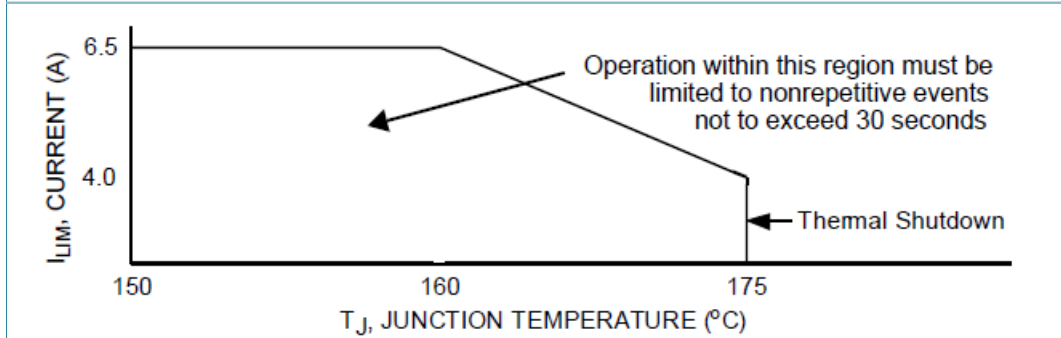
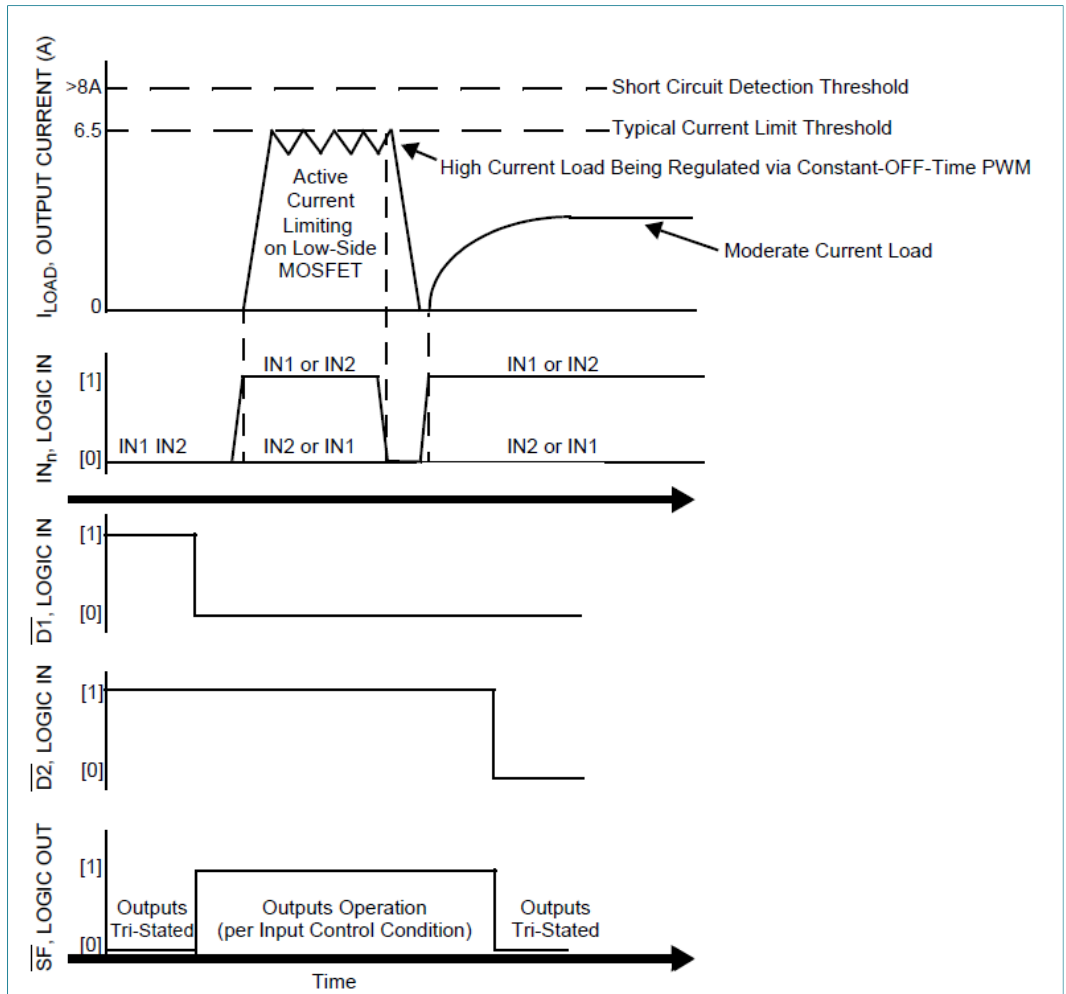
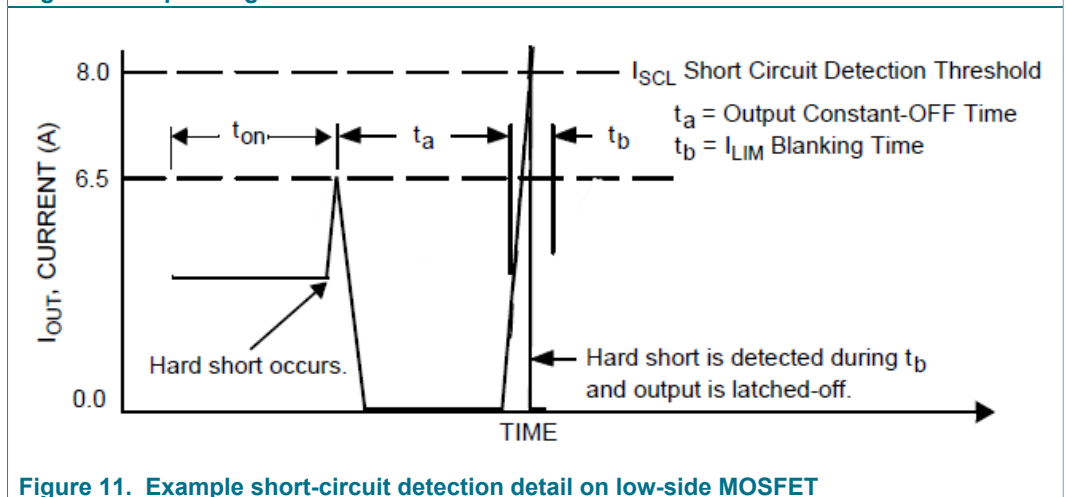

Figure 9. Active current limiting versus temperature (typical)
Figure 10. Operating states
Figure 11. Example short-circuit detection detail on low-side MOSFET
- [5] Load currents ramping up to the current regulation threshold become limited at the I_{LIM} value. The short-circuit current possess a di/dt that ramps up to the I_{SCH} or I_{SCL} threshold during the I_{LIM} blanking time, registering as a short-circuit event detection and causing the shutdown circuitry to force the output into an immediate 3-state latch OFF. See Figure 10 and Figure 11. Operation in current limit mode may cause junction temperatures to rise. Junction temperatures above ~160 °C causes the output current limit threshold to progressively foldback, or decrease with temperature, until ~175 °C is reached, after which the T_{LIM} thermal latch OFF occurs. Permissible operation within this foldback region is limited to nonrepetitive transient events of duration not to exceed 30 seconds. See Figure 9.
A disable timer (time t_b) used to detect currents that are higher than current limit is activated at each output activation to facilitate hard short detection (see Figure 11).
The maximum current flow under normal operating conditions is internally limited to I_{LIM} (5.2 A to 7.8 A). When the maximum current value is reached, the output stages are 3-stated for a fixed time (t_a) of 20 μ s typical. Depending on the time constant associated with the load characteristics, the current decreases during the 3-state duration until the next output ON cycle occurs (see Figure 11 and Figure 14).
The current limiting threshold value is dependent upon the device junction temperature. When $-40\text{ }^\circ\text{C} \leq T_J \leq 160\text{ }^\circ\text{C}$, I_{LIM} is between 5.2 A to 7.8 A. When T_J exceeds 160 °C, the I_{LIM} current decreases linearly down to 4.0 A typical at 175 °C. Above 175 °C the device overtemperature circuit detects T_{LIM} and overtemperature shutdown occurs (see Figure 9). This feature allows the device to remain operational for a longer time but at a regressing output performance level at junction temperatures above 160 °C.